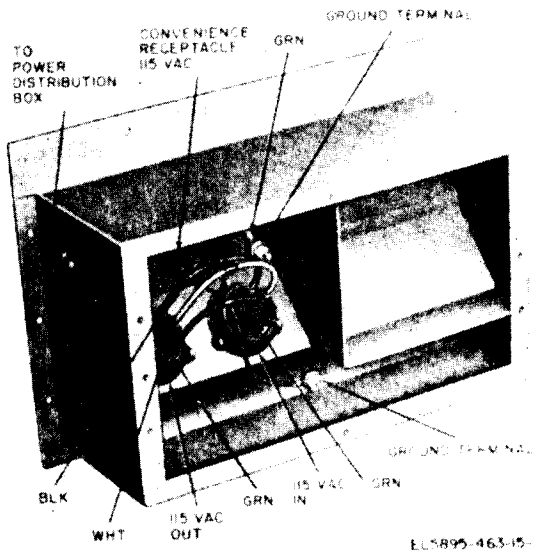

Figure 4-11. Power entrance box, rear view.
(2) Remove the interior cover of the power entrance box, disconnect the wires from the appropriate receptacle, and remove the receptacle (fig. 4-11).
(3) Install the replacement receptacle, connect the wires to the proper terminals of the receptacle, and replace the cover on the power entrance box.